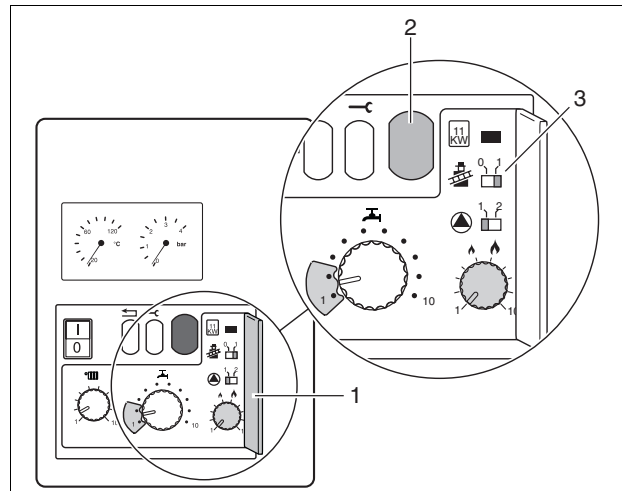

Fig. 32 Display and chimney-sweep switch
- Open cover for 2nd operating level (fig. 32, item 1).
- Start boiler up and move chimney sweep switch (fig. 32, item 3) to position "1".
The display shows (fig. 32, item 2) "–" or "=". To indicate that the gas supply system is purged of air. Return chimney sweep switch to normal running position, that is position "0".